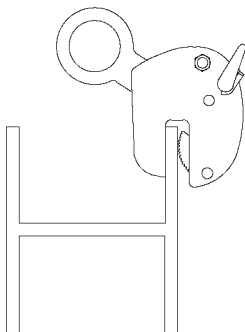

Figure 2
3. The VL-BC and VBC models are capable of lifting, transferring, and stacking of steel beams in the “H” position when lifting eye is over the web and between the flanges (Fig. 2).